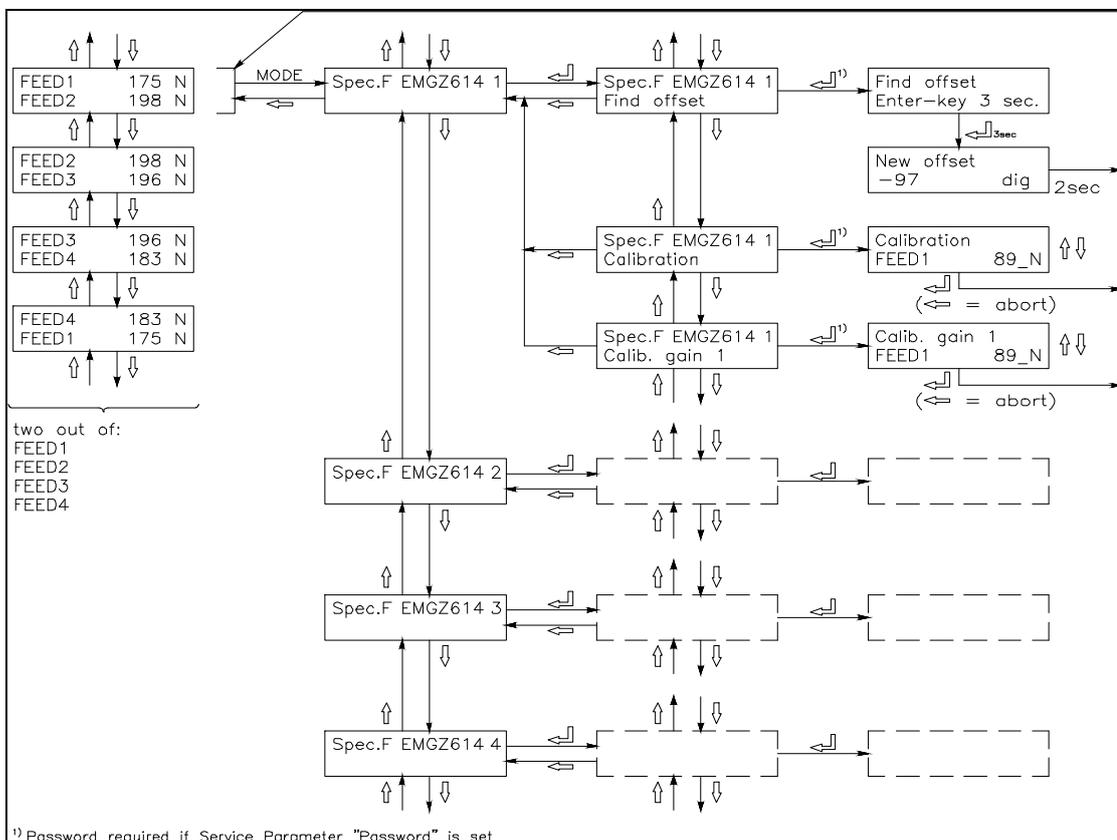

fig. 9: Main operating menu EMGZ614A
- Press MODE key. Search and select the module *Spec.F EMGZ614 14)* and the special function *Find offset* with the  $\uparrow \downarrow \leftarrow$  keys (fig. 9).
- Find offset by pressing the  $\leftarrow$  key for 3 seconds (fig. 9). The electronic unit calculates automatically the new offset value. The display will return to the main operating menu.
- Press MODE key. Search and select the module *Spec.F EMGZ614 14)* and the special function *Calibration* with the  $\uparrow \downarrow \leftarrow$  keys (fig. 9).
- Set the force referring to the applied weight into the display with the  $\uparrow \downarrow$  keys and confirm with  $\leftarrow$  key (fig. 9). The electronic unit calculates automatically the new gain value. The display will return to the main operating menu.
*Spec.F EMGZ614 2 / Spec.F EMGZ614 3 / Spec.F EMGZ614 4* (ref. to fig. 9).